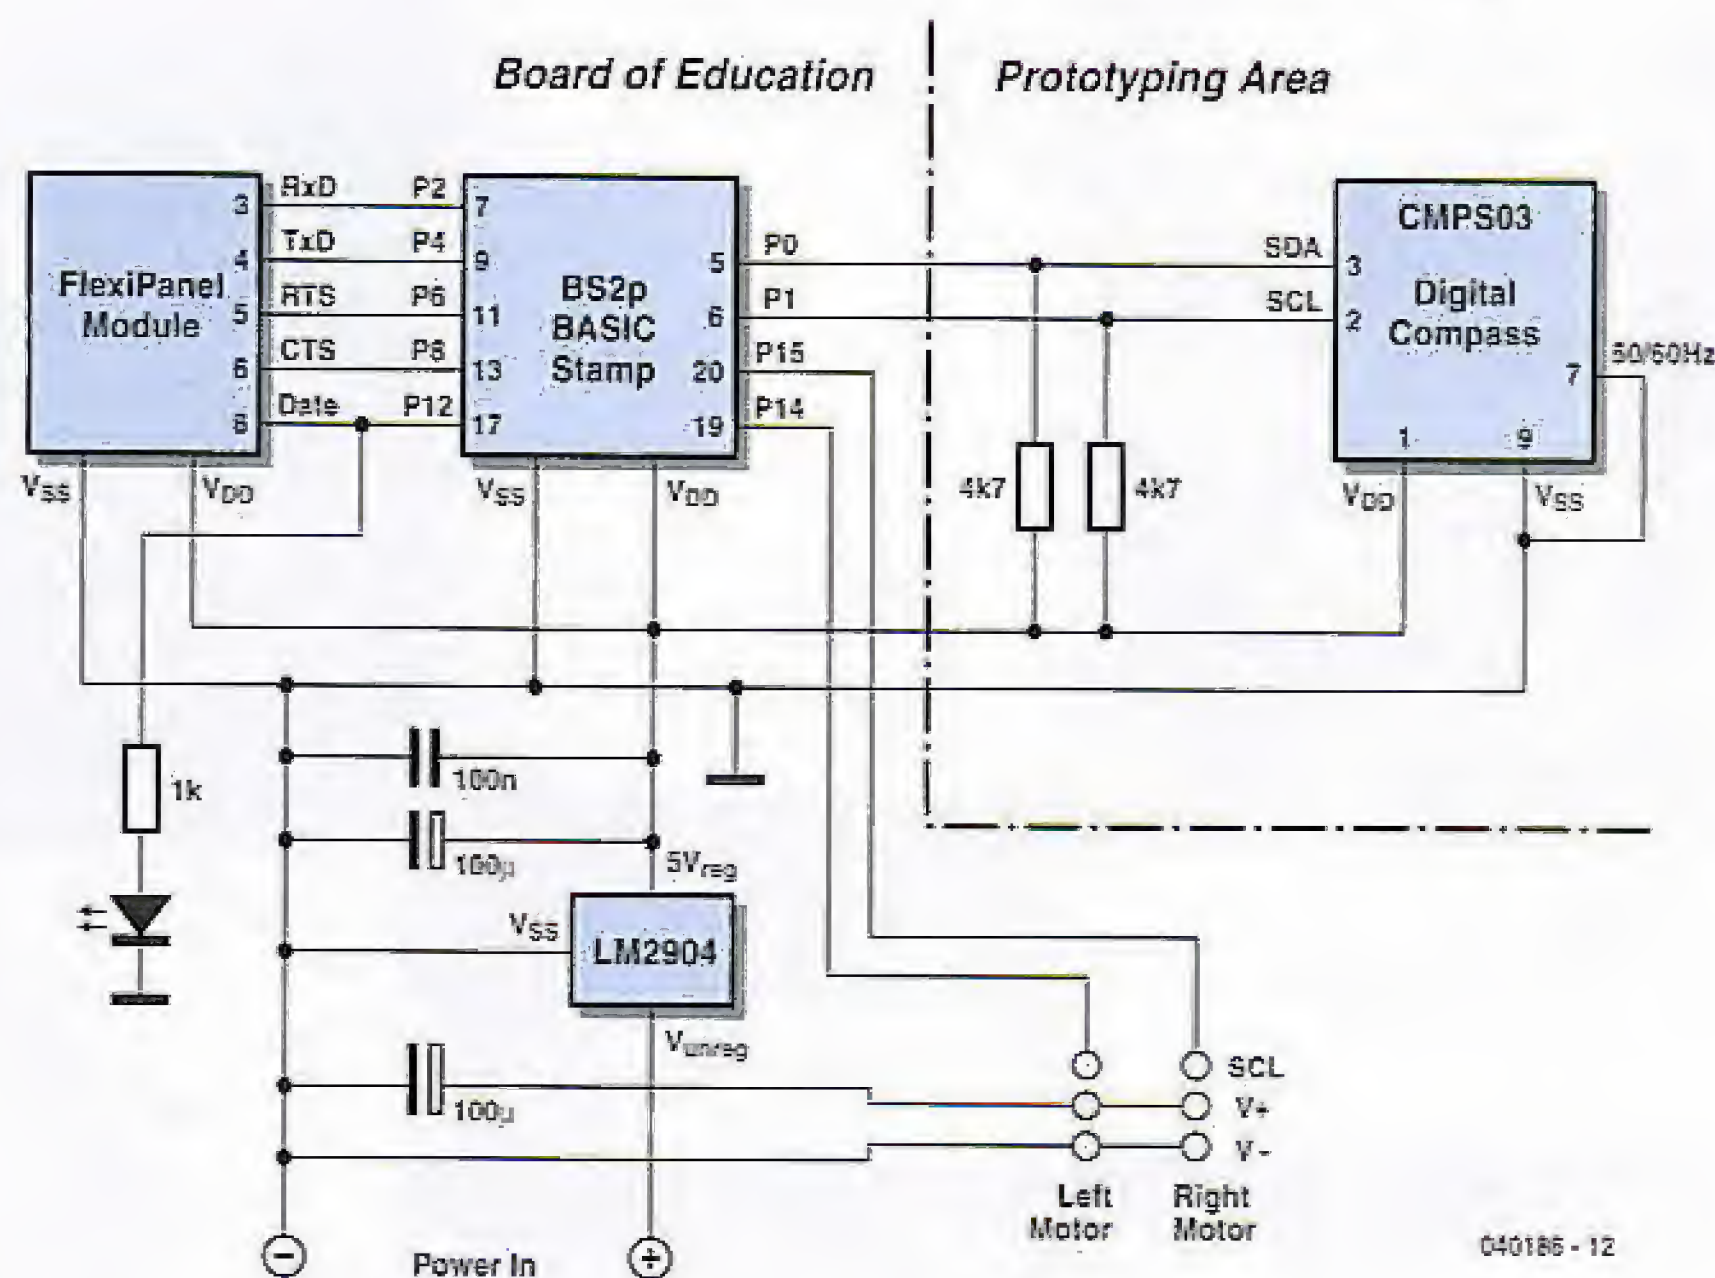

Figure 3. The add-on circuitry for the Tracking Robot consists of an electronic compass module.
**Figure 3** shows what to add to the BoE to make it suitable for our experiment. First, there is the combined FlexiPanel-Bluetooth module hooked up to the BS2p by five lines. The two units employ bidirectional serial communication with handshaking. As you will have surmised, the FlexiPanel is also a
The BoE with its extension circuitry crammed in the prototyping area is mounted on the BoE-Bot robot superstructure available from Parallax Inc. This has motorized wheels which may be controlled by pulsewidth modulation direct from the BASIC Stamp as indicated in Figure 3. The tracking robot, ready to start on its journey, is shown in the introductory photograph. Note that the photo shows the Parallax BoE.
*Flexipanel Designer* generates a program for PBasic that allows the FlexiPanel hardware to be programmed. Using the PC and Basic Stamp Editor, this piece of software is downloaded onto the Stamp where it is executed. It may happen that FlexiPanel has to be reset first, for example, when an earlier attempt at programming went wrong. In that case, the circuit supply voltage has to be switched off and on again — the reset button on the BoE having an effect on the Stamp only and **not** on the FlexiPanel! When the circuit is switched on, the programming will recommence automatically — the program still being available in EEPROM, it does not have to be loaded again from the PC. It should be noted that FlexiPanel needs about 10 seconds to boot so you can stir your tea or coffee before programming actually commences. To have at least an indication of what's happening during the boot-up phase, a low-current LED may be connected between the Data line and ground, not forgetting a 1-k resistor — see Figure 3. After switching on the supply or after a soft reset of the module (which happens auto-